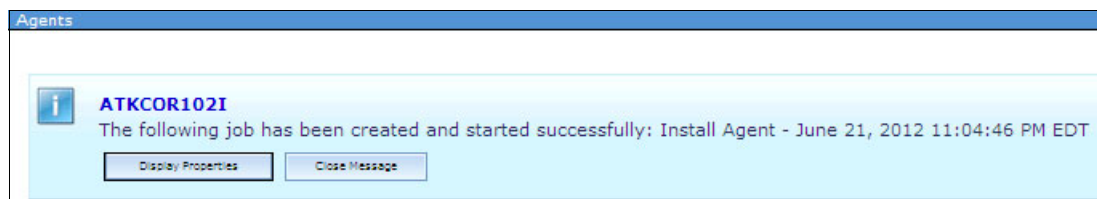

Figure 12-14 Display Properties
6. Click **Display Properties** as shown in Figure 12-14.